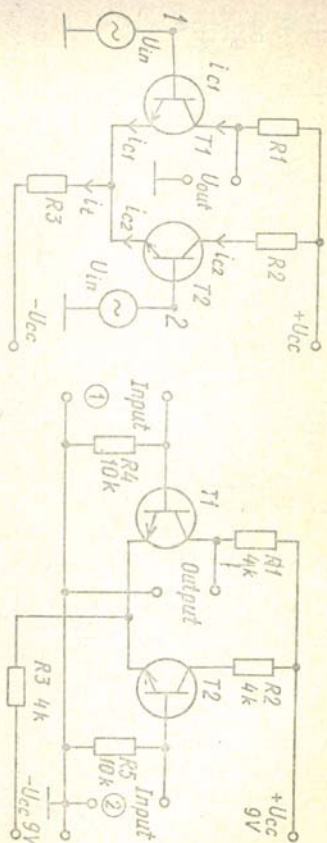

Fig. 4.6. The differential amplifier with common mode inputs. Fig. 4.7. The basic differential amplifier.
Now we shall consider сейчас мы рассмотрим; here we can no longer assume здесь мы не можем больше допустить; as we did in Fig. 4.6 как мы допустили, рассматривая рис. 4.6; as this would imply that как это подразумевает бы (значило бы), что; for the purpose of calculating с целью расчета; it is reasonable to assume that нерационально предположить, что; thus we see that таким образом, мы видим, что; note that заметьте, что; hence следовательно; we have seen that мы увидели, что.
In assessing the voltage gain of the differential amplifier we shall consider two input conditions. First of all, in Fig. 4.6, input (1) and
In the case of Fig. 4.6 $R_1 = R_3$ and, when both inputs are driven together with the same signal, the overall voltage gain is one half. This type of input is called a common-mode input and the corresponding gain the common-mode gain. The higher the value of the tail resistor R_3 compared with the collector load R_1 , the lower the common-mode gain.
Now we shall consider the amplifier with a differential input, i. e. with a different signal on input (1) from that on input (2) Fig. 4.7. Here we can no longer assume that the emitters are connected together with negligible resistance as we did in Fig. 4.6, as this would imply that the output could not be different. For the purpose of calculating the differential voltage gain we shall consider the signal current flowing in r_e for each transistor. It is reasonable to assume that R_3 is much larger in value than r_e so that any common mode signal current (i_c) flowing in R_3 can be neglected in comparison with i_{c1} and i_{c2} . Then,
1. Where are input (1) and input (2) connected to in Fig. 4.6?
- IV. Examine Figs. 4.6, 4.7 and comment on:
1. It is very desirable that, when there is no signal, both the input and the output should be at earth potential. 2. Here we can no longer assume that the emitters are connected together with negligible resistance as we did in Fig. 4.6, as this would imply that the input could not be different.